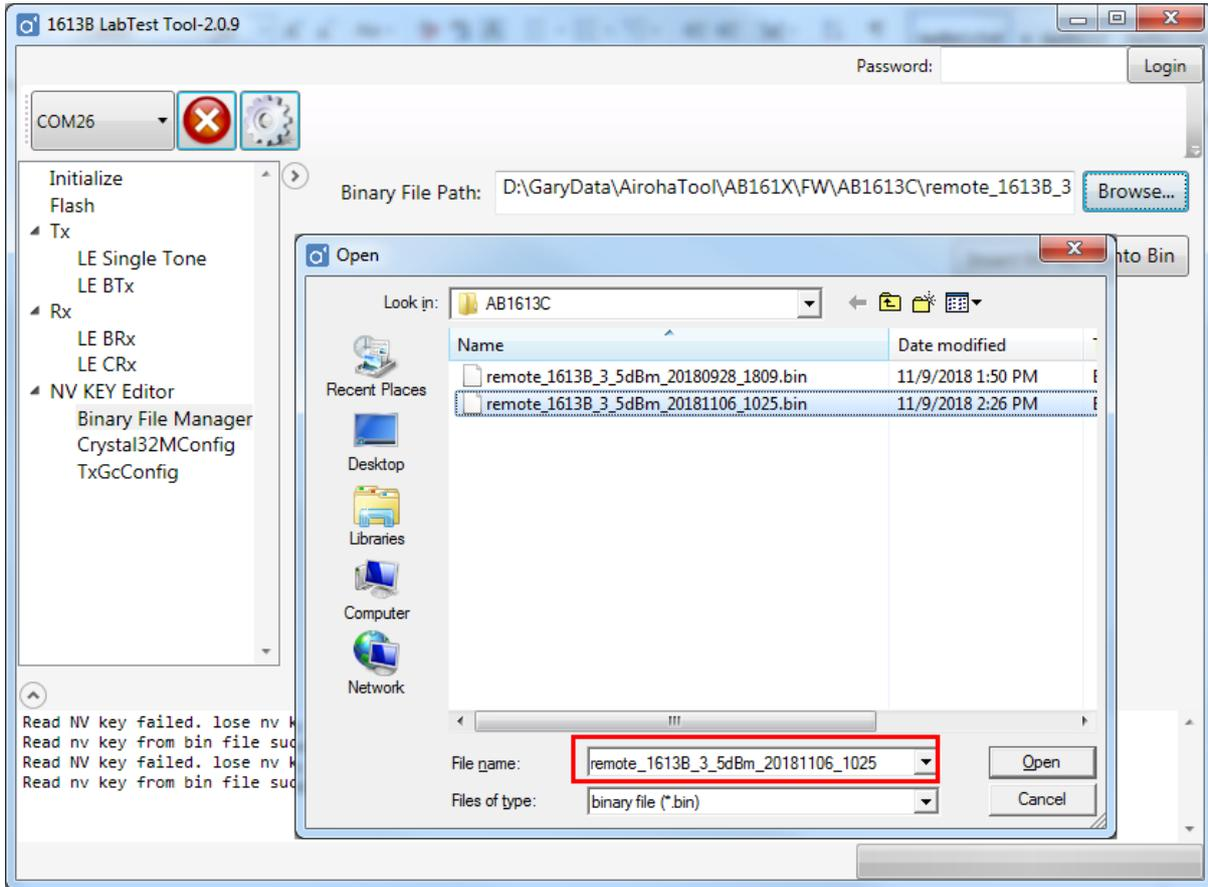

Figure 15. Create a new setting FW
7) Create a new file name, as shown in Figure 15.